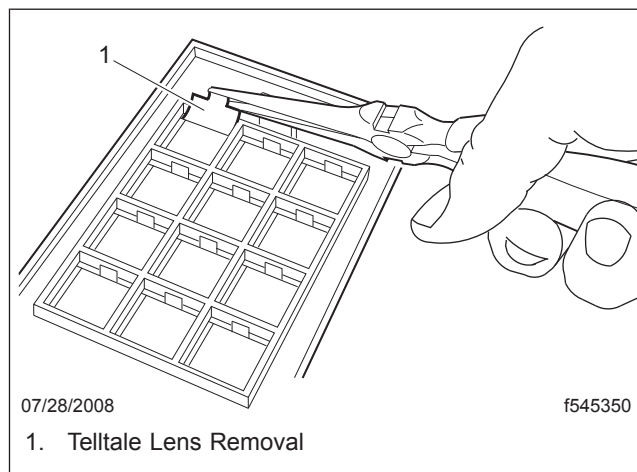

Fig. 2, Telltale Removal
3. Using a pair of needlenose pliers or a similar tool, grab the exposed tab along the side of the telltale slot and carefully slide the telltale out from the slot. See Fig. 2 for an example of telltale removal.